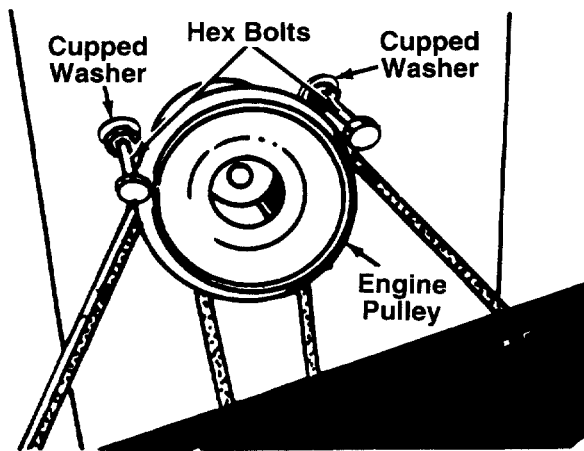

FIGURE 19.
NOTE: Figures 19, 23 and 24 are shown with the unit tipped up for clarity. It is not necessary to tip the unit to remove the belts.
2. Remove the hex bolts (belt keepers) and cupped washers from the engine pulley belt guard. See figure 19.
NOTE: When reassembling, make certain hex and cupped washers are assembled in the same locations from which they were removed. See figure 19.
3. Remove the hex bolts (belt keepers) and cupped washers from the engine pulley belt guard. Refer to figure 19.
NOTE: Make certain hex bolts are reassembled as shown in figure 19.